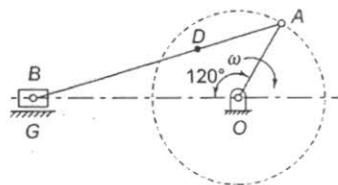

Fig. Q3(a)
3. a) Figure Q3(a) shows the configuration of an engine mechanism. The dimensions are the following: